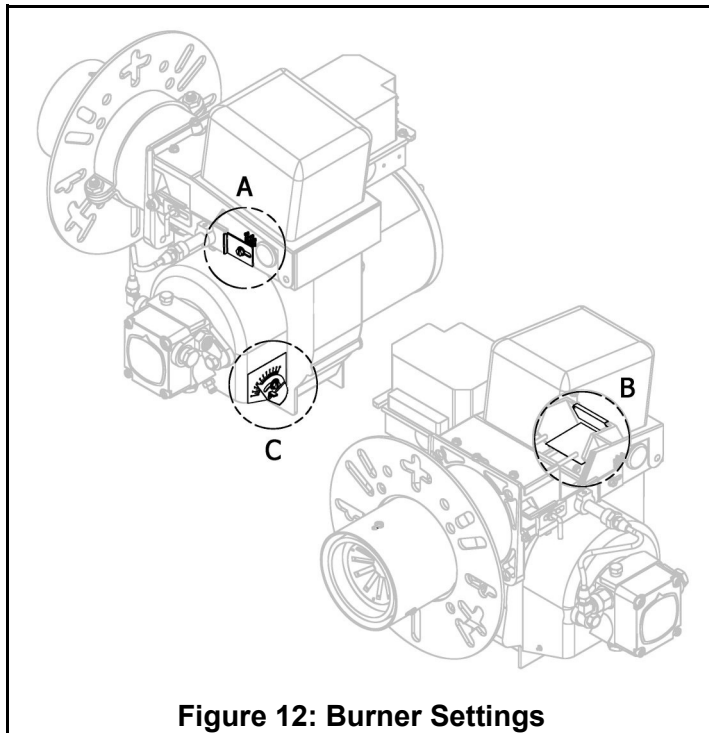

Figure 12: Burner Settings
2. Adjust air supply on burner by loosening the screw on the primary air damper, and open partially. (See Figure 12 and Table 2 for inputs and damper adjustments).
3. Install proper baffle and make gun adjustments per firing rate (see Table 2 and Figure 12, page 7).